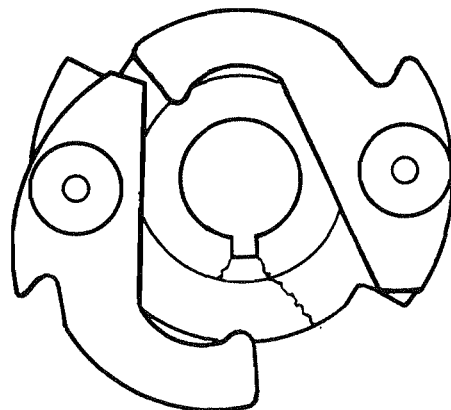

Figure 922. Typical Crack (Either Corner of Keyway)
*If the impulse coupling cam (48) cracks during this procedure, an audible cracking noise is evident and nut torque reduces immediately. (See Figure 922.) Cam must be discarded and replaced.*